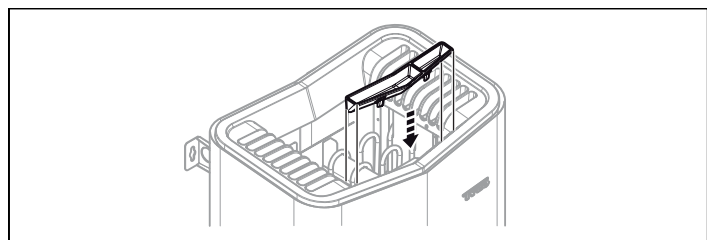

Figure 13: Fitting the fragrance holder/air humidifier
10. Fit herb bowl/air humidifier (see Fig. 13).